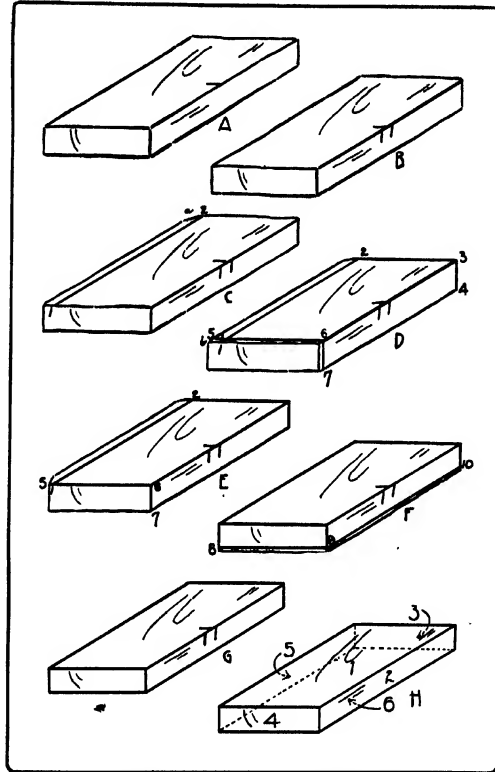

Fig. 103. The Order of Planing a Board.
1. Working face. Plane one broad side flat and smooth. Finish with the plane set to cut fine shavings. Test with try-square. Mark this face with a distinct pencil mark, A, Fig. 103.
2. Working edge. Plane one narrow side straight and square with the working face. Test with try-square, pressing the block of the try-square against the working face. Mark the working edge with two distinct pencil marks, B, Fig. 103.
3. End. First mark the width on the working face with the marking-gage, C, 1-2, Fig. 103. Chisel off the corner, a, of the piece outside this gaged line. True and smooth this end with the plane, making it square with both working face and working edge, D, 2, 3, 4, Fig. 103.
using a sharp knife point and the try-square. Saw just outside this line, D, 5-6-7, with the back-saw, cut off the narrow corner, D, b, beyond the gaged line and plane true, E, Fig. 103.
5. Width. Plane to the center of the gaged line, E, 1-2. Test this edge from the working face, F, Fig. 103.
6. Thickness. Mark the thickness with the marking-gage all around the piece, F, 8-9-10. Plane to the center of the gaged line, G, Fig. 103. Test this face for flatness.
In a word, the order to be followed is graphically represented in H, Fig. 103. The surfaces are numbered consecutively in the order in which they are to be planed.
The advantages of this order are these: by planing the working face first, a broad surface is secured to which the others may be made true. By planing the ends before the width is planed, the danger of splitting off fragments can be avoided by chiseling the corner of the unfinished edges, C, *a*, and D, *b*, Fig. 103, into a buttress. By planing the ends and the width before the thickness is planed, a dressed face is secured all around for gaging the thickness. In following this order all measurements and markings are made on a dressed face.